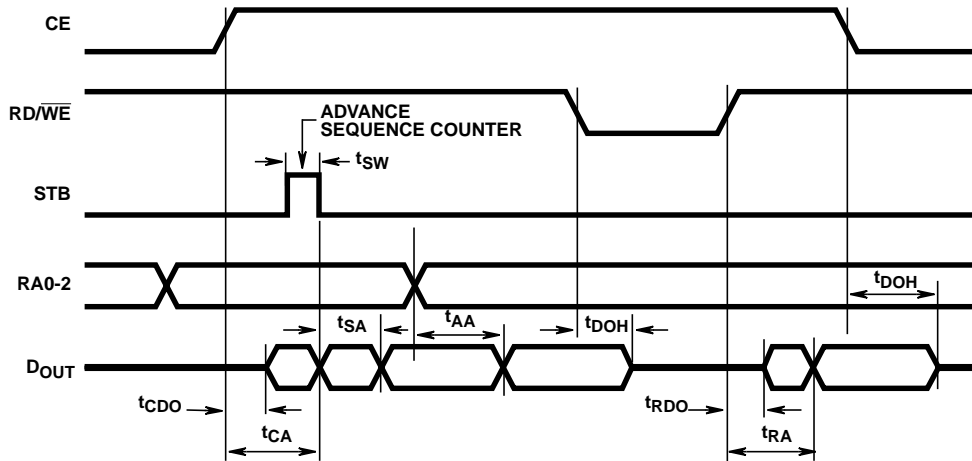

FIGURE 9. READ TIMING DIAGRAM
$C_L = 100\text{pF}$  (See Figure 9)
**Dynamic Electrical Specifications** At  $T_A = -40$  to  $+85^\circ\text{C}$ ,  $V_{DD} \pm 5\%$ ,  $t_R, t_F = 20\text{ns}$ ,  $V_{IH} = 0.7V_{DD}$ ,  $V_{IL} = 0.3V_{DD}$ ,  $C_L = 100\text{pF}$  (See Figure 9) **(Continued)**